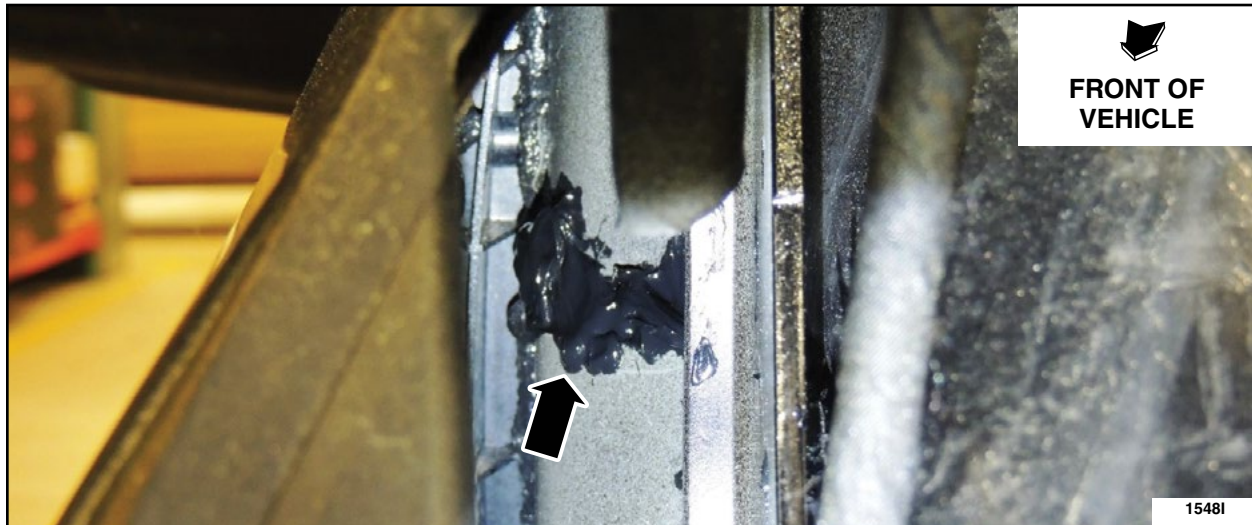

FIGURE 12
5. Carefully inspect the bead of seam sealer to ensure it completely fills the gap in the sheet metal panels. Apply additional seam sealer if required to ensure a leak free joint is attained. See Figure 12.